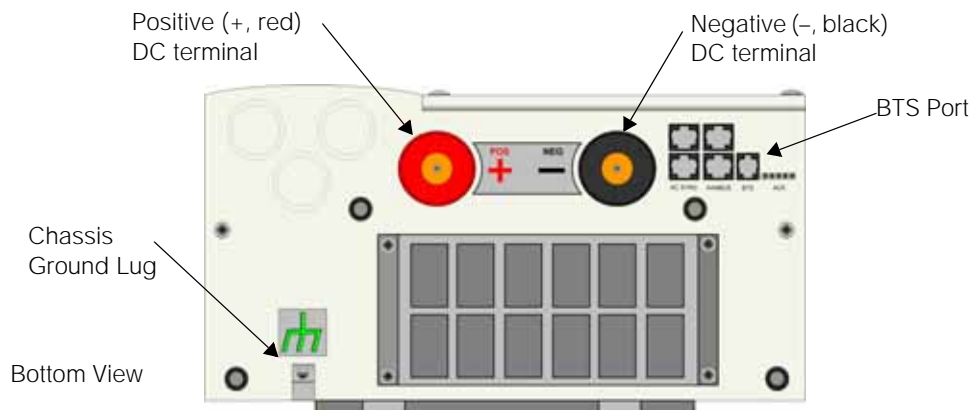

Figure 2-9 Xantrex XW Inverter/Charger DC Connections
2. Install a DC fuse and disconnect switch or a DC circuit breaker between the inverter/charger and the battery. They must be installed in the positive side of the DC circuit, as close as possible to the battery. See Figure 2-9, "Xantrex XW Inverter/Charger DC Connections" on page 2-16.
1. Insert the Battery Temperature Sensor plug into the BTS port. See Figure 2-9 and Figure 2-11.